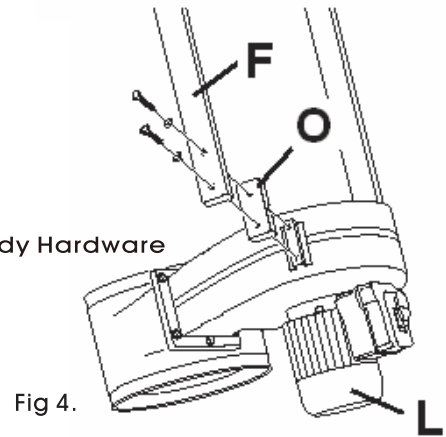

Fig 4.
3. Attach 2 legs to the motor assembly: Turn the motor-bag-support assembly upside down. Place plastic spacers (O, Fig 4) between motor assembly and legs. Attach legs with medium bolts and washers.